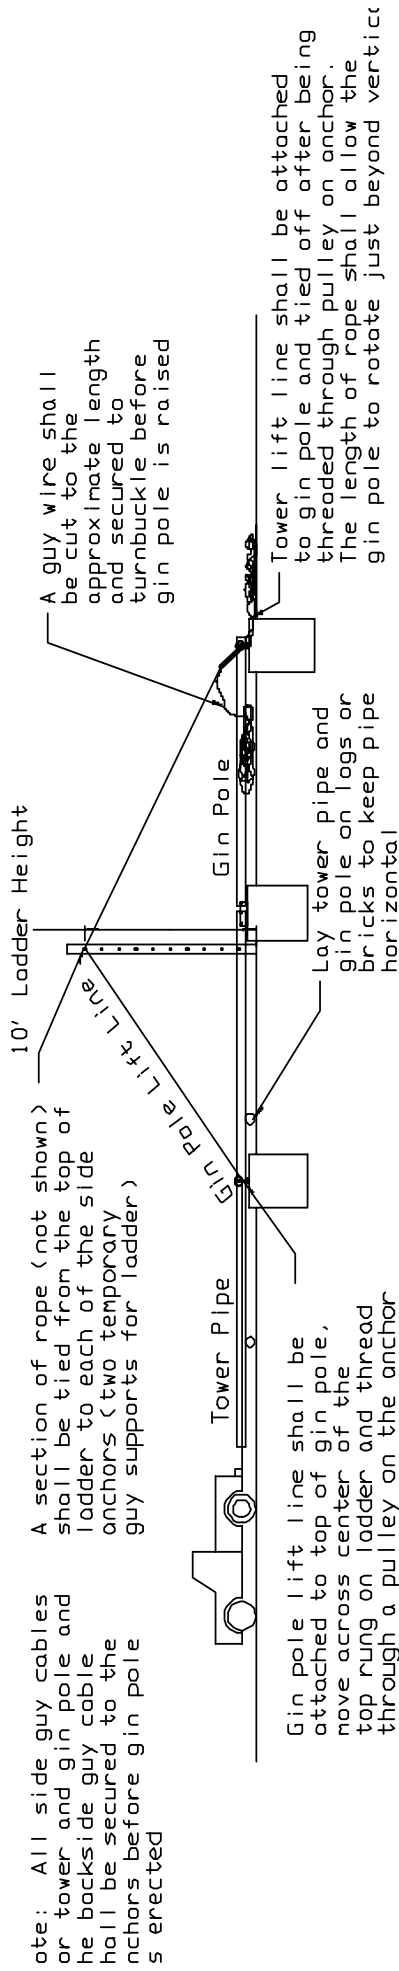
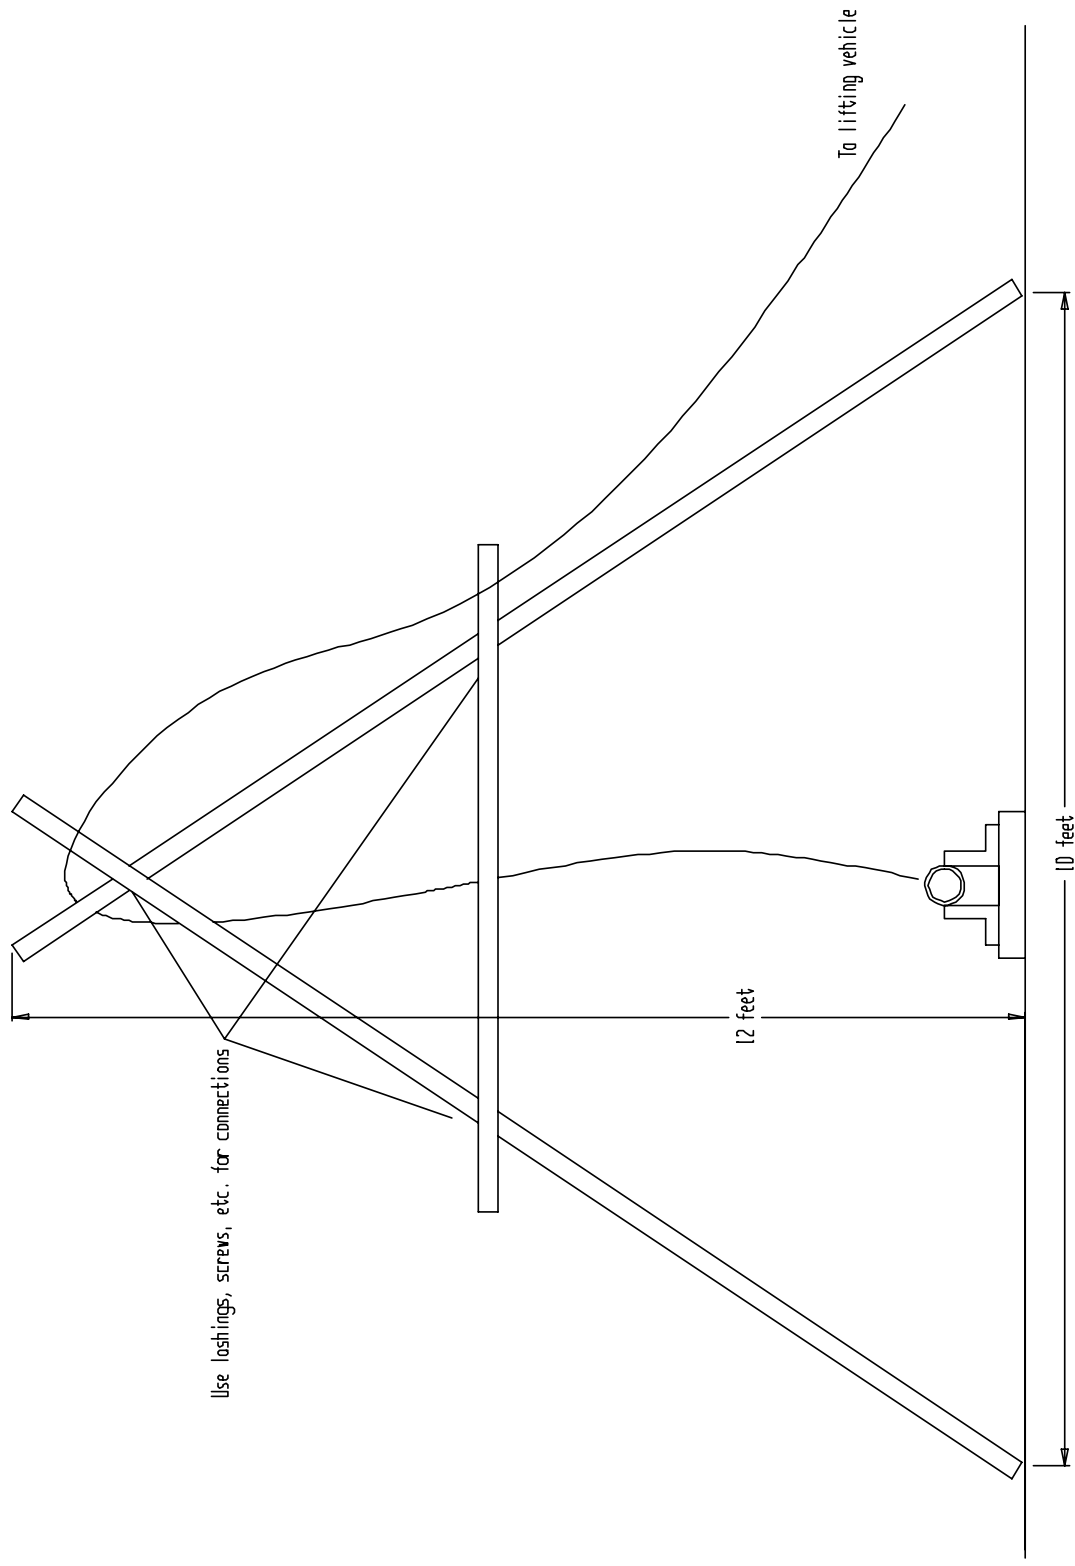

Figure 10
Figure 15
When you finish assembling the gin pole and tower pipe the installation should look like Figure 10. Remember to have on hand wood pieces or bricks to support the pipe sections 7 inches above ground. This is important since you do not want to be moving the tower and lift-pipe sections around. They are very heavy! Remember to have help around to move the pipes into place. See figure 2 and 10 for details!
2. The first step to raising the tower is to raise the gin pole. The gin pole for the 42' 175 tower weighs over 300 pounds so a secondary gin pole is necessary to raise the gin pole. One option for this secondary gin pole is to use a 10' ladder with a minimum rating of at least 250 pounds (see Figure 10). Do not use a stepladder for this because it must be able to rotate on its base. The ladder should straddle the tower pipe and be located near the tower base. An extension ladder with the proper rating should work just fine. The ladder should be given side-to-side support by tying a rope from the top of the ladder to each of the side anchors. This rope should have a minimum breaking strength of 4000 lbs. These two ropes will prevent the ladder from falling to either side during the gin pole erection. If a ladder is not available, then an A-Frame can be built out of 2x4s (see Figure 15).
4. Connect the gin pole lift line to one of the turnbuckles on the gin pole. The minimum breaking strength for this rope must be 4000 lbs. The gin pole lift rope is then run across the top rung on the ladder before it goes through a pulley connected to the anchor. This pulley must be rated for at least 3000 lbs. The end of this rope should be attached to the bumper on the vehicle raising the gin pole. An alternative to a vehicle is to use an appropriately sized winch connected to the anchor (see Figure 10).